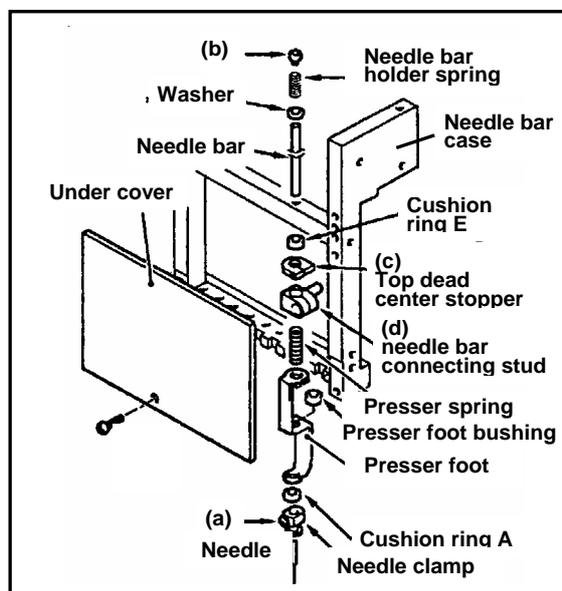

FIG.1
- (4) Set the upper end of the needle bar to the same height as the next ones and tighten the setting screw (c) temporarily and also the needle bar connecting stud with the setting screw (d). (Fig.1)
- (5) Remove the needle plate.
- (6) Rotate the hand wheel to bring the needle bar to the bottom dead center. Loosen the set screw (d) and adjust